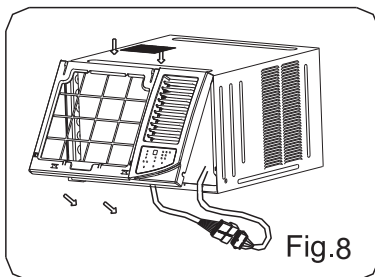

Fig.8
1. Install the frame and connect the coupler plugs, making sure not to interfere with the temperature sensor cable (See Fig.8).